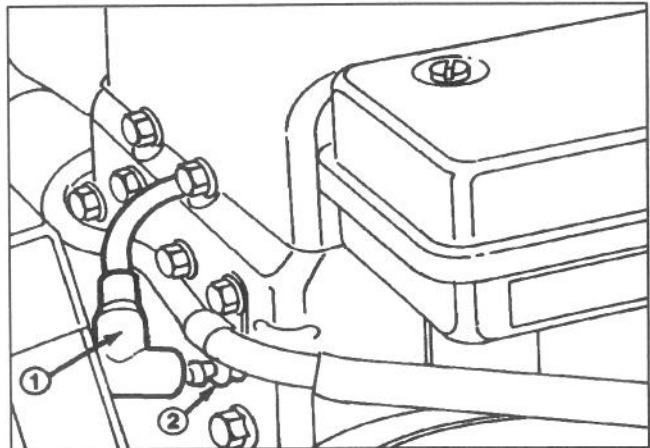

Figure 11
To prevent accidental engine starting while performing maintenance, shut the engine off and remove the key from the ignition switch. Also, pull the wire off the spark plug (Fig. 11). Make sure the wire does not contact the plug accidentally.
1. Remove the wire from the spark plug (Fig. 11).